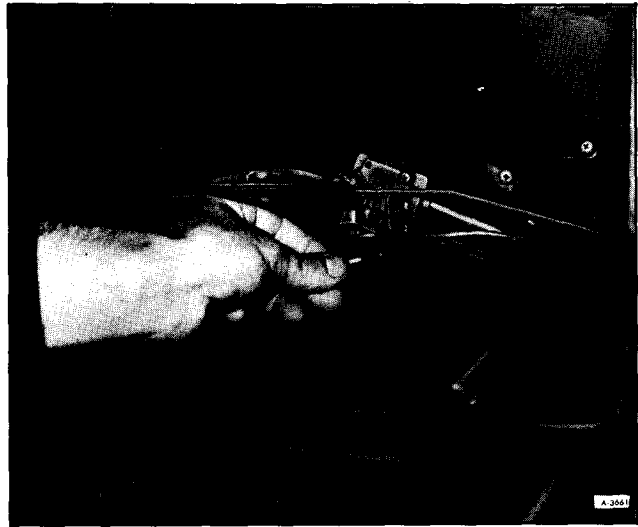

Figure 4—Lighting Oven Pilot
7. Open the oven door, allow the compartment to ventilate, then light the oven pilot with a match (See figure 4). A small flame should be noted at the top of the pilot burner. After the initial light-up, it may take a minute or so to clear the air from the line so the flame stays lit.